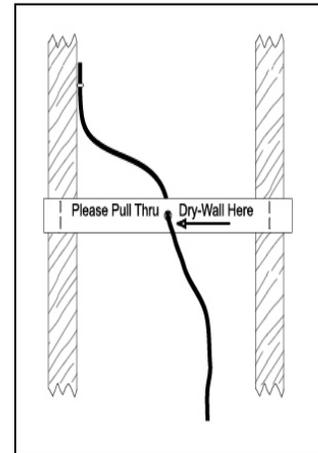

Figure 3
3. If pre-wiring without using the On-Q Pre-Construction Speaker Brackets, leave 4 to 6 feet of wire at the speaker's intended location. Use a strip of cardboard stapled to the joints/studs with a hole through it as a wire place holder for the drywall installers if installation of the speakers is intended (*see Figure 3*).